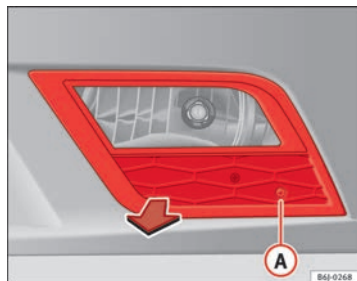

Fig. 157 Fog light
- Remove the bolt ⇒ Fig. 157 **A** from the fog light grille with a screwdriver.